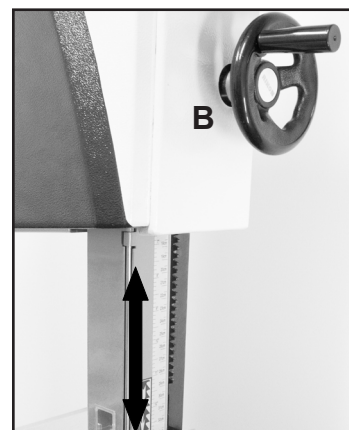

FIGURE 29
1. Loosen the Guidepost Lock Knob (#21E, Fig. 30A) and turn the Guidepost Handle (#27E, Fig. 29, B) to raise or lower the guide post/upper blade guide assembly to the desired height. A measurement scale has been supplied on the right side of the guide post for quick reference on the height of the guide bearings above the table surface.